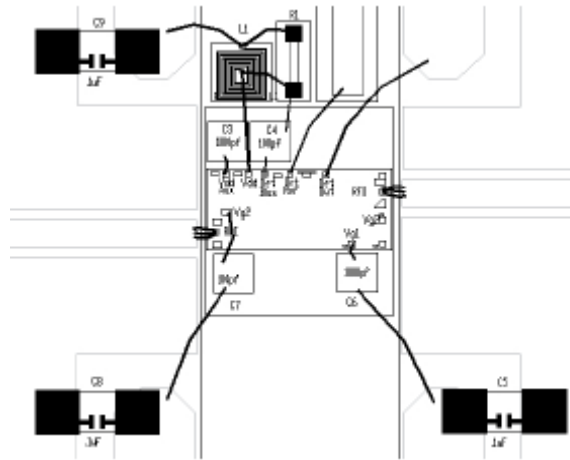
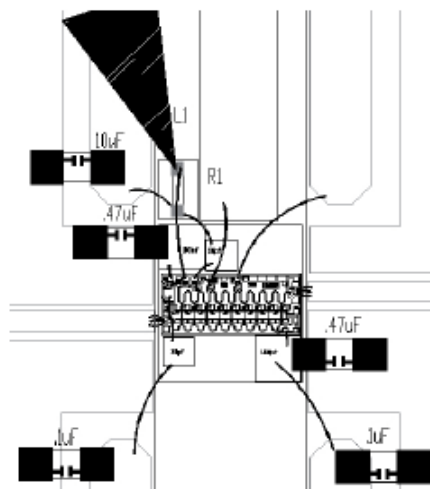
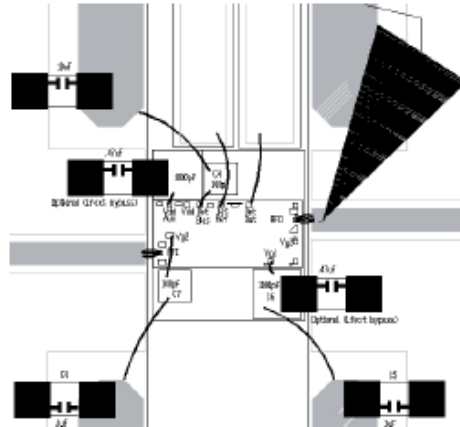

Figure 6
Figure 7
Figure 8
- 3) Increasing the inductance of the drain inductor (L1, Figure 6) to provide high impedance bias feed at the lower frequencies.
All three factors are equally important since any one of these can limit the low frequency performance. Input and output return loss degrades as the drain and gate line loads deviate from 50 Ω. The load can be restored close to 50 Ω and RF performance improved by adding large external capacitors in parallel with the on-chip capacitors, as shown in Figure 6. When the additional bypass capacitors are connected, the low frequency limit is extended down to the corner frequency determined by the bypass capacitors, the combination of the on-chip 50Ω load, and the small de-queing resistor. At this low-end band edge, the small signal gain will increase in magnitude and stay at this elevated level down to the point where the CAUX bypass capacitor acts as an open circuit, effectively rolling off the gain completely. The low frequency capacitive extension limit can be approximated from the following equation:
Using this equation, CDC can be calculated for different desired corner frequencies. The equation is an approximation because it does not take into account other factors, such as transmission line impedances and TWA termination networks. In a typical assembly, the bypass capacitors are usually mono-block capacitors on the order of 0.01 or 0.47 μF , depending on the desired low frequency operating point. Keep in mind that these mono-blocks have series parasitic inductance. Since the RF DC blocking capacitors are the most sensitive, in this respect, we show a few recommended broadband DC blocks in Table 1. Figure 6, illustrates a 2 GHz to 50 GHz laminate PCB assembly. L1 is a chip inductor, and R1 is the de-queing alumina chip resistor. Figure 7, illustrates a 10 MHz to 50 GHz laminate PCB assembly. L1 is a Piconics broadband inductor. This inductor has an iron filling that negates the parallel resistor for de-queing. R1 is used simply as a means of launching the inductor and providing bias to the on-chip detector. As discussed previously, as the DC bias is on the same electrical path as the RF path, it is possible to bias the TWA through the RF transmission line. Figure 7 below illustrates this alternative method. The 2 GHz to 40 GHz RF performance, using a 7 turn Micrometrics chip inductor, are illustrated in Figure 8. All module losses are included in this data.